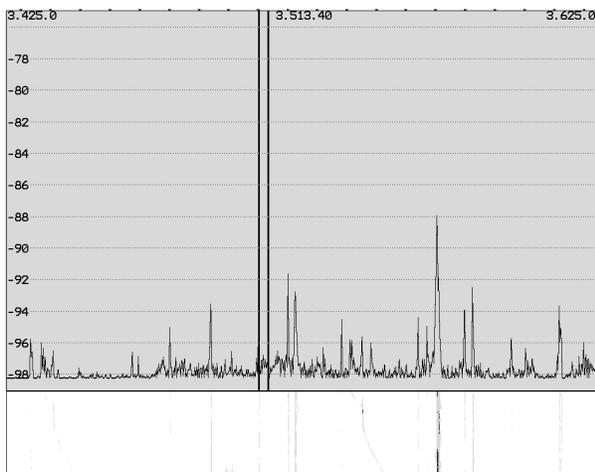
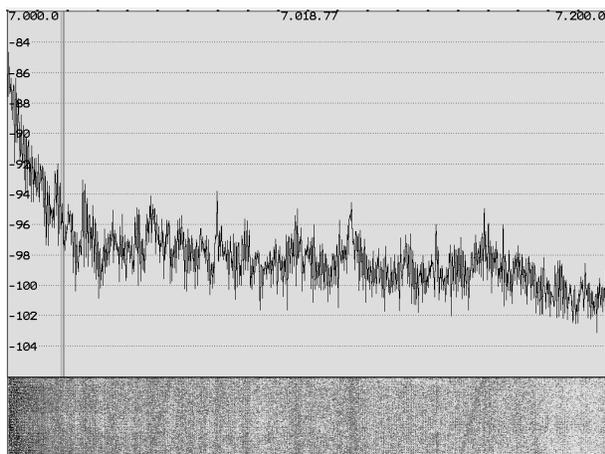
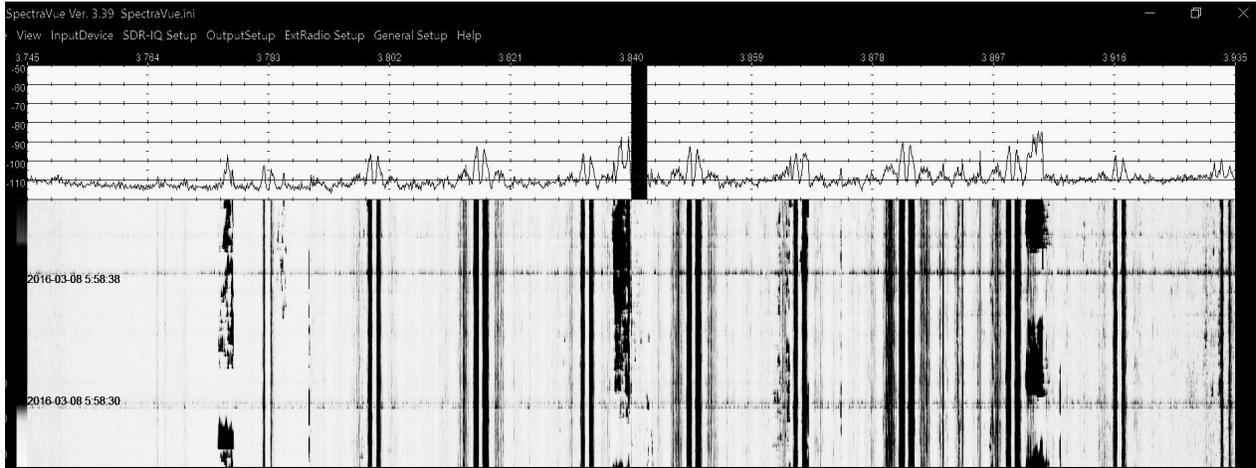

Fig 8 – 80M at K6GFJ – Noise floor -98 dBm
Fig 12: Plasma TV, 7 – 7.2 MHz
Fig 14 – A Neighbor's Plasma TV at K7PI – 3,754 kHz – 3,935 kHz, 10dB/div
**Evaluating Equipment For Noise:** When someone tells you that XYZ equipment produces no noise on the ham bands because he can’t hear any noise in his radio, should you believe that the equipment is clean? **NO!** The equipment may be noisy but he doesn’t hear it because it is being covered by other noise from the neighborhood. Figs 8 and 9 compare the daytime 80M spectra at K6GFJ in a San Jose residential neighborhood and K9YC 30 miles to the south in the Santa Cruz Mountains. The difference in the noise floor is 10 dB. And it’s certainly not dead quiet in the mountains, either – everything on the displays from both QTHs is noise from either switching power supplies or other electronic sources.
**Typical Plasma TV Noise Spectra** are shown in Figs 12 and 13 (K6GFJ) and Fig 14 (K7PI). K6GFJ's data is from his K3/P3/SVGA fed by a low dipole, and looking at his own NEC PlasmaSync 50MP2 TV. The bottom of each of the amplitude displays is the noise level at Ross's QTH in a San Jose residential neighborhood. Fig 8, from K7PI's SDR, shows a wider spectrum for his neighbor's plasma TV. Note that the spectra will be strongly dependent on which of the dozen or so common DTV video standard signals are being viewed at the time. There's more spectral data for plasma TV RFI at [k9yc.com/publish.htm](http://k9yc.com/publish.htm)